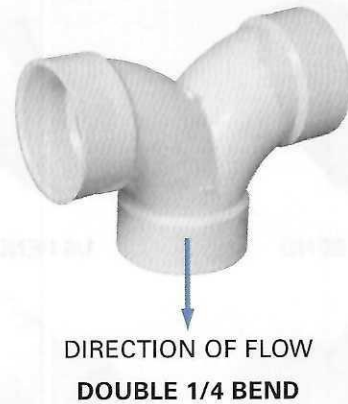

Figure 21 Double  $\frac{1}{4}$  bend.
**Double  $\frac{1}{4}$  bends** (also called twin ells), shown in Figure 21, are used to collect and combine the flow from two opposite runs into a single run of pipe. Note the direction of flow in Figure 21.